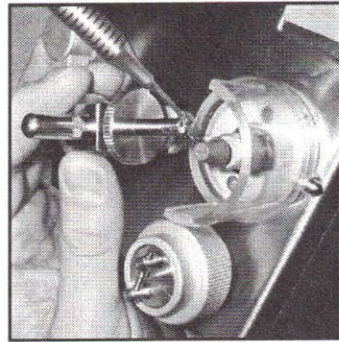

Fig. 7
2. Lightly hold the Articulated Arm assembly as shown (fig 7), move the blade toward the Sharpening Cone.